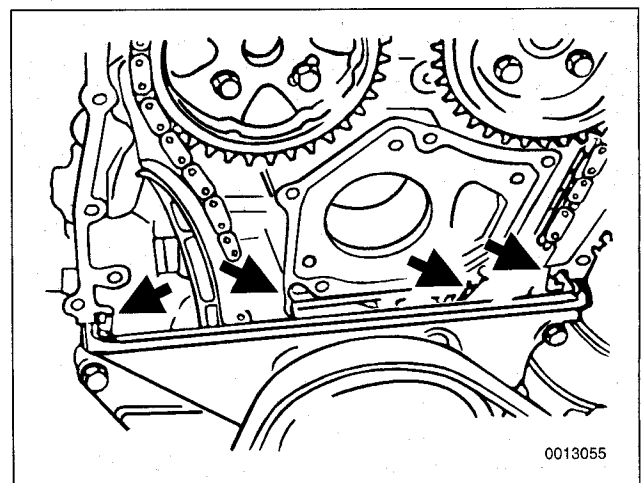

Fig. 14. Apply sealer (3-Bond 1209® or equivalent) to joint corners where chain cover meets head and block (**arrows**).
- Apply a small bead of silicon sealer (3-Bond 1209® or equivalent) to joint corners where chain cover meets head and block. See Fig. 14.